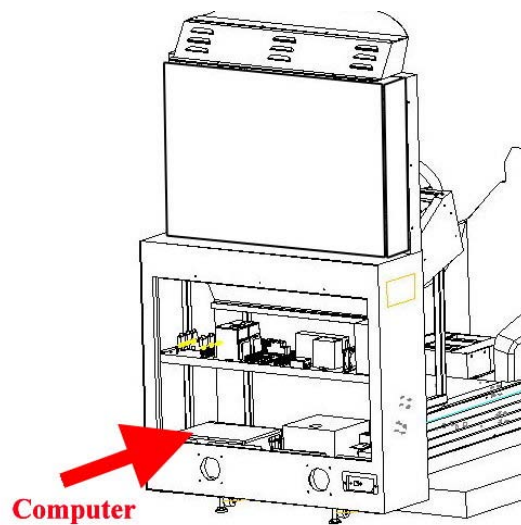

Figure 4-17 Locate the system's PC (Computer)
2. Locate the system's PC (Industrial PC): Referring to Figure 4-17, open the front case of the chassis located at the bottom of the motion base. You can see the PC is installed at the left corner.